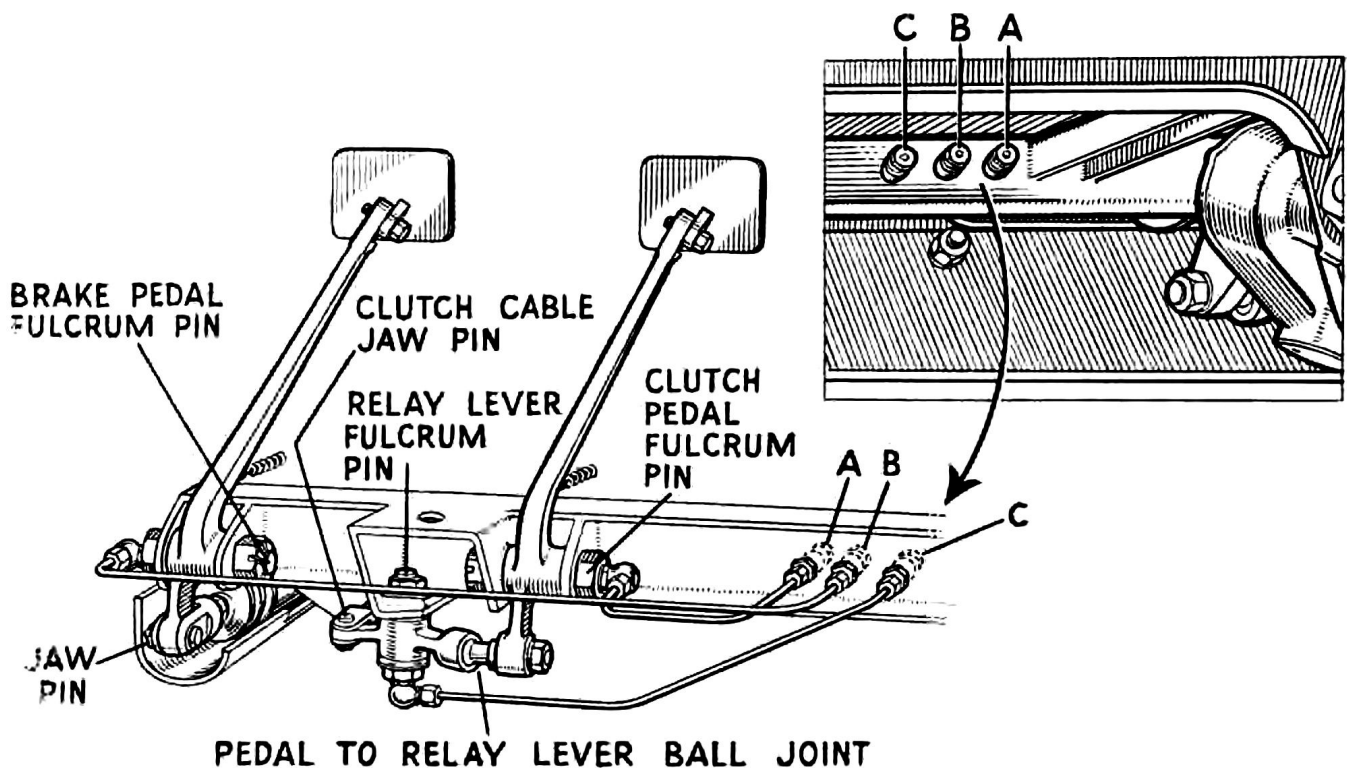

Fig. 15.—CLUTCH AND BRAKE PEDAL LUBRICATION
4. The cable clevis pin on the relay lever is lubricated by force feed oil can. The above points are shown on Fig. 15.
5. The clutch cable is lubricated from the point shown on Fig. 15. Also see lubrication chart. **The clutch unit must not be lubricated.**